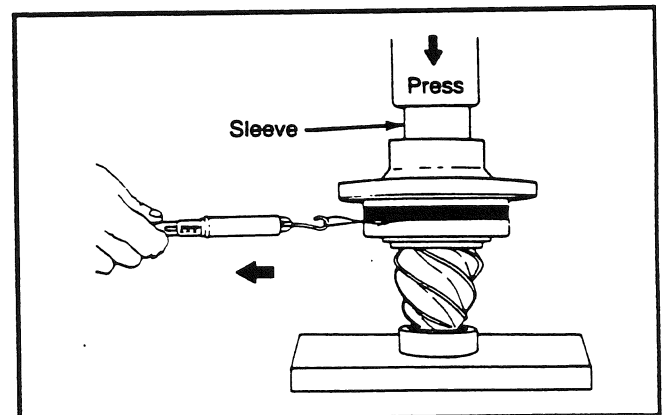

Fig. 36
1. Place the drive pinion and cage assembly in a press, gear head (teeth) toward the bottom. Install a sleeve of the correct size against the outer bearing cone race (see Fig. 36). Apply and hold the following pressure: 50,000 lbs or 25 tons (22 680 kg or 2,7 metric tons). As you apply the pressure, turn the bearing cage several times to ensure normal bearing contact.